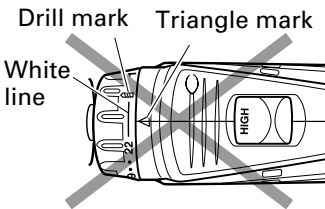

Fig. 16
- **Do not use with the cap numeral at "22" and the white line at the middle of the drill mark. Doing so may cause damage. (See Fig. 16)**